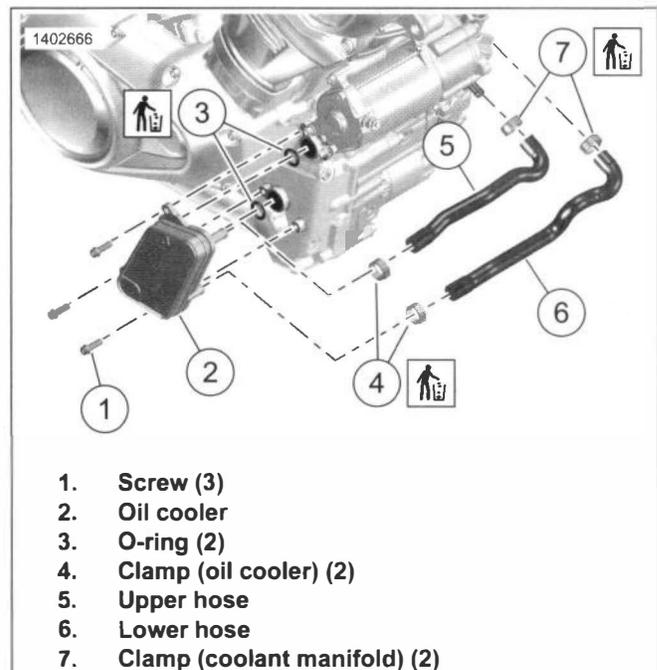

Figure 4-16. Oil Cooler and Hoses
1. See Figure 4-16. Remove and discard clamps (4, 7).
1. See Figure 4-16. Remove screws (1).
2. Remove oil cooler (2).
3. Discard O-rings (3).
1. See Figure 4-16. Install **new** O-rings (3).
2. Install oil cooler (2).
3. Install screws (1). Tighten.
1. See Figure 4-16. Place **new** clamps (4, 7) on hoses (5, 6).